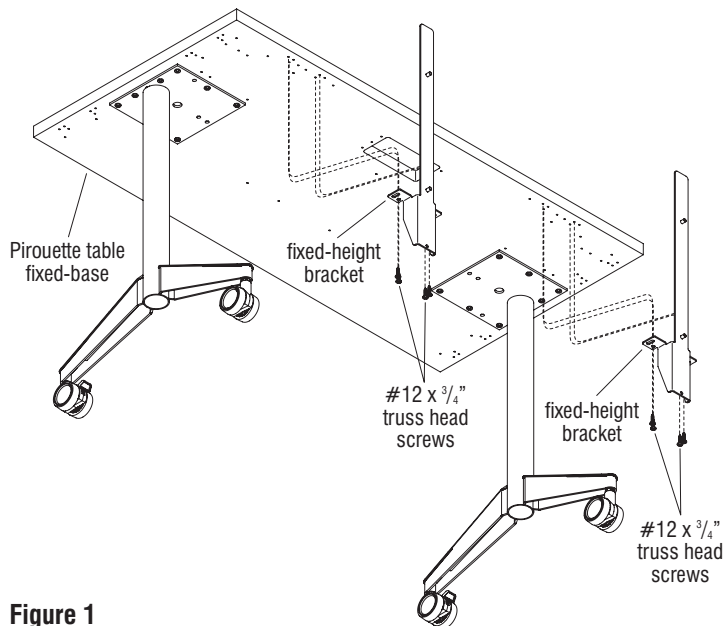

Figure 1
2. Locate a fixed-height bracket per the screen model being installed and position the mounting tabs to align with the pre-drilled holes on the underside of the tabletop. Secure the bracket to the underside of the tabletop using four #12 x 3/4" screws. Screens installed to tables 60" or greater have three fixed-height brackets per assembly. Repeat this process to secure the remaining brackets to the underside of the table (Figure 1).